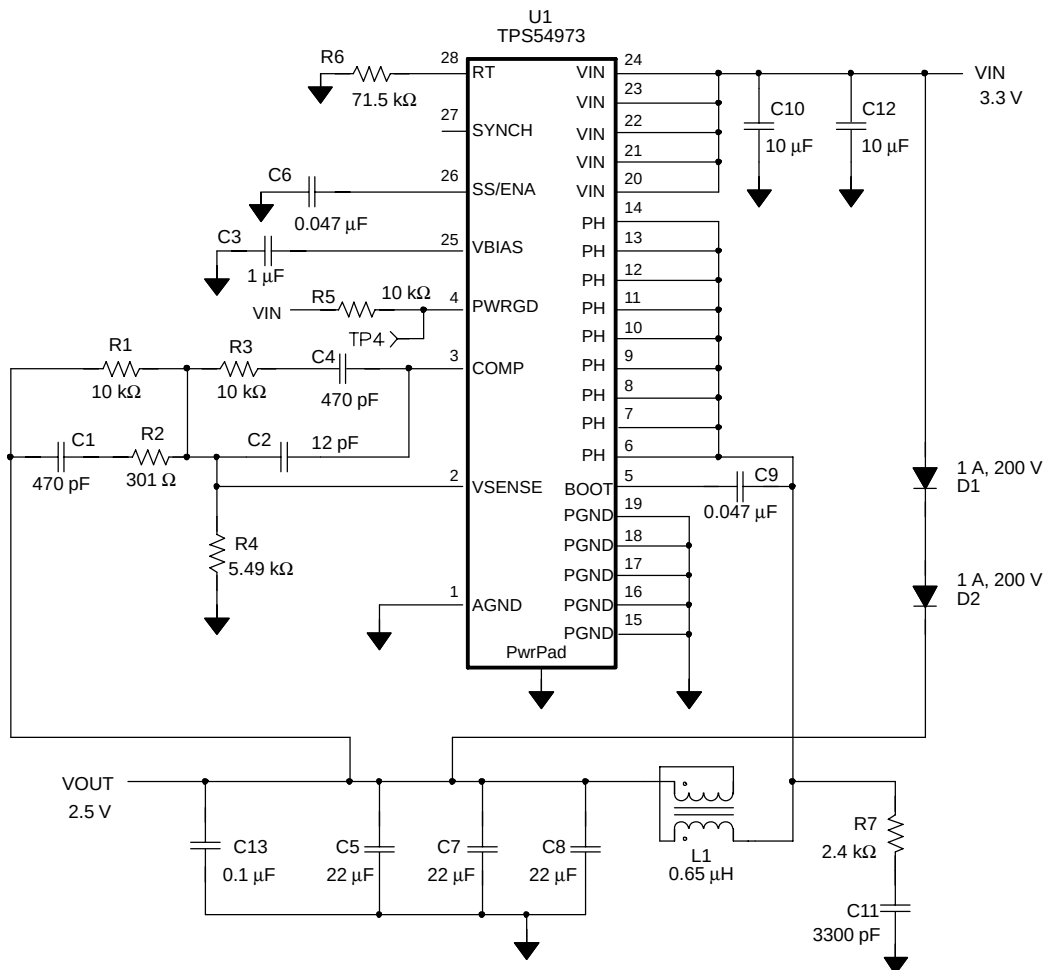
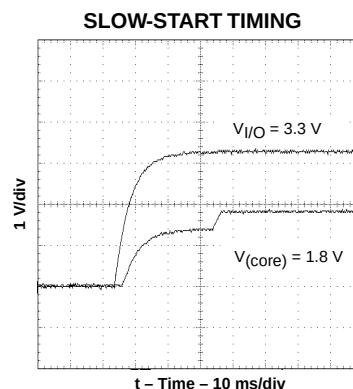

Figure 9. Application Circuit
Figure 18
(1) Specified by design
(2) Static resistive loads only
(3) Specified by the circuit used in Figure 9
⁽³⁾ Specified by the circuit used in Figure 9
Figure 9 shows the schematic diagram for a typical TPS54973 application. The TPS54973 (U1) can provide up to 9 A of output current at a nominal output voltage of 0.9 V to 2.5 V, and for this application, the output voltage
Data shown is for the circuit in Figure 9 with precharge disabled (D1 and D2 removed) except for slow-start timing of Figure 18. All data is for $V_I = 3.3$ V, $V_O = 2.5$ V, $f_s = 700$ kHz and $T_A = 25^\circ\text{C}$, unless otherwise specified.